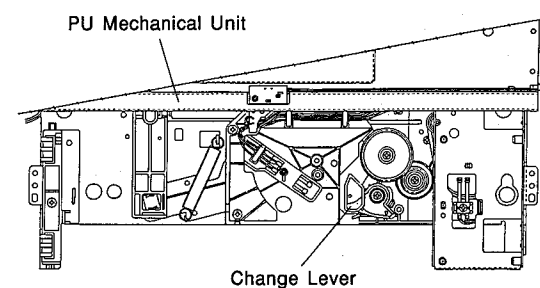

Fig. 3
2) The Cam Gear and Idler Gear are not engaged, in other words, the Change Lever is as shown in Fig. 3.